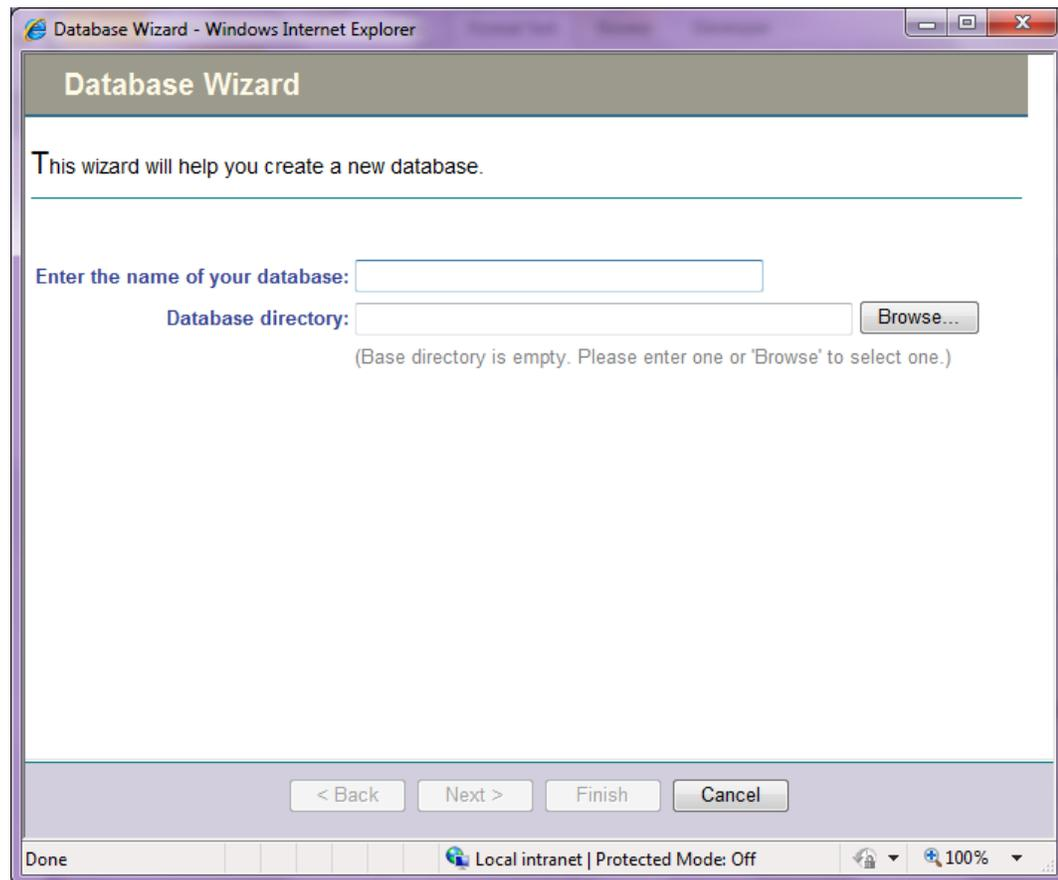

Figure 4-6: Creating a new database
7. Click **Create New Database** to display the **Database Wizard** window, as shown in Figure 4-6.